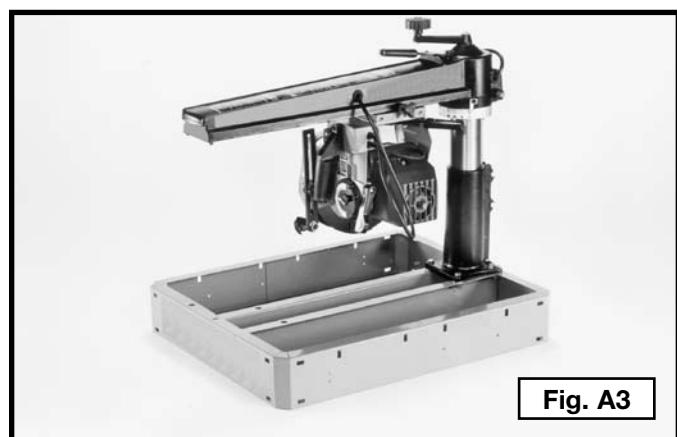

Fig. A3
3. The saw with the support blocks and shipping boards removed is illustrated in Fig. A3.